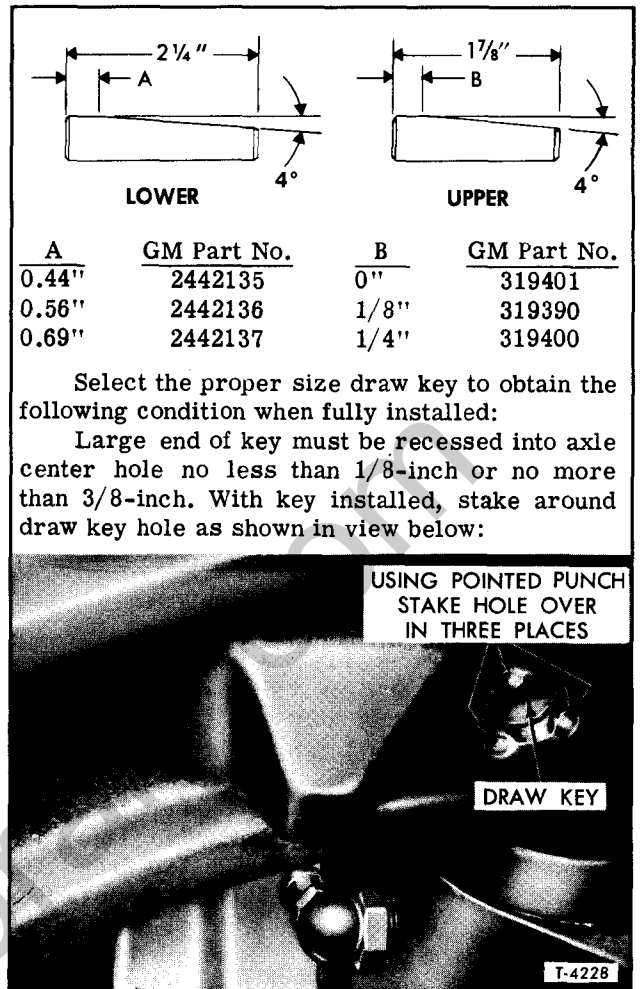

Figure 4—King Pin Draw Keys (FE970 Axle)
Periodically check steering knuckle bushings for wear and also check the knuckle-to-axle center draw keys for looseness. Oversize (taper only) draw keys are available if the keys should become loose and the holes enlarged. Refer to figure 4.
6. Draw keys are available in three different sizes as shown in figure 4. Select the draw key to obtain the following condition when fully installed: